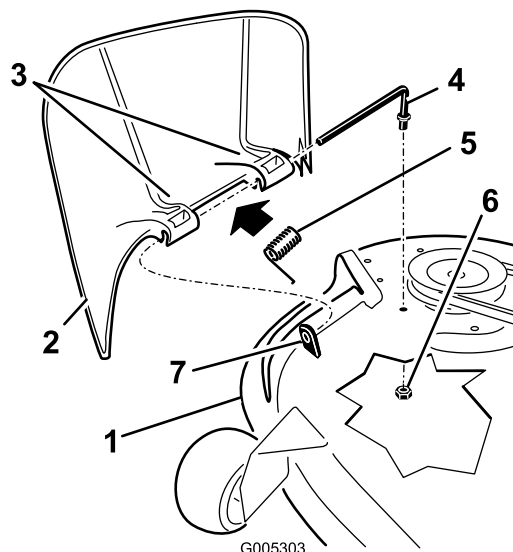

Figure 56
- Remove the nut (3/8 inch) from the rod under the mower (Figure 56).
- Slide the rod out of the short standoff, the spring, and the grass deflector (Figure 56).
- Replace the grass deflector (Figure 56).
7. Slide rod through the second grass-deflector bracket (Figure 56).
9. Secure the rear end of the rod into the mower with a nut (3/8 inch) as shown in Figure 56.